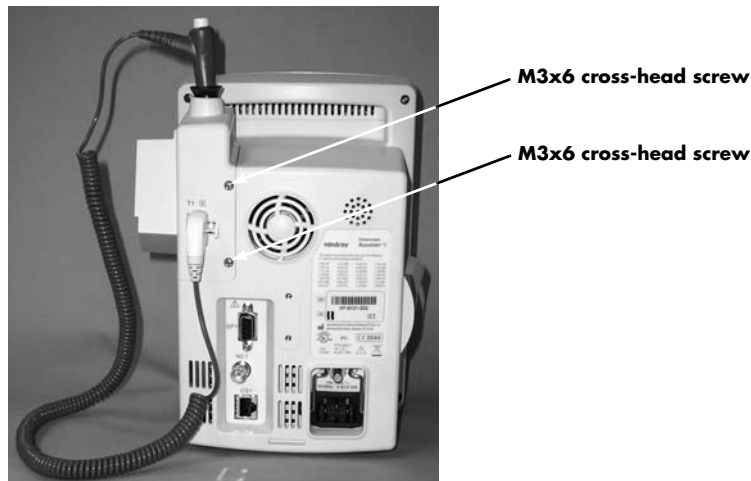

FIGURE 4-1 Remove two (2) M3x6 cross-head screws.
- a. Remove the two (2) M3x6 cross-head screws (as shown in Figure 4-1).